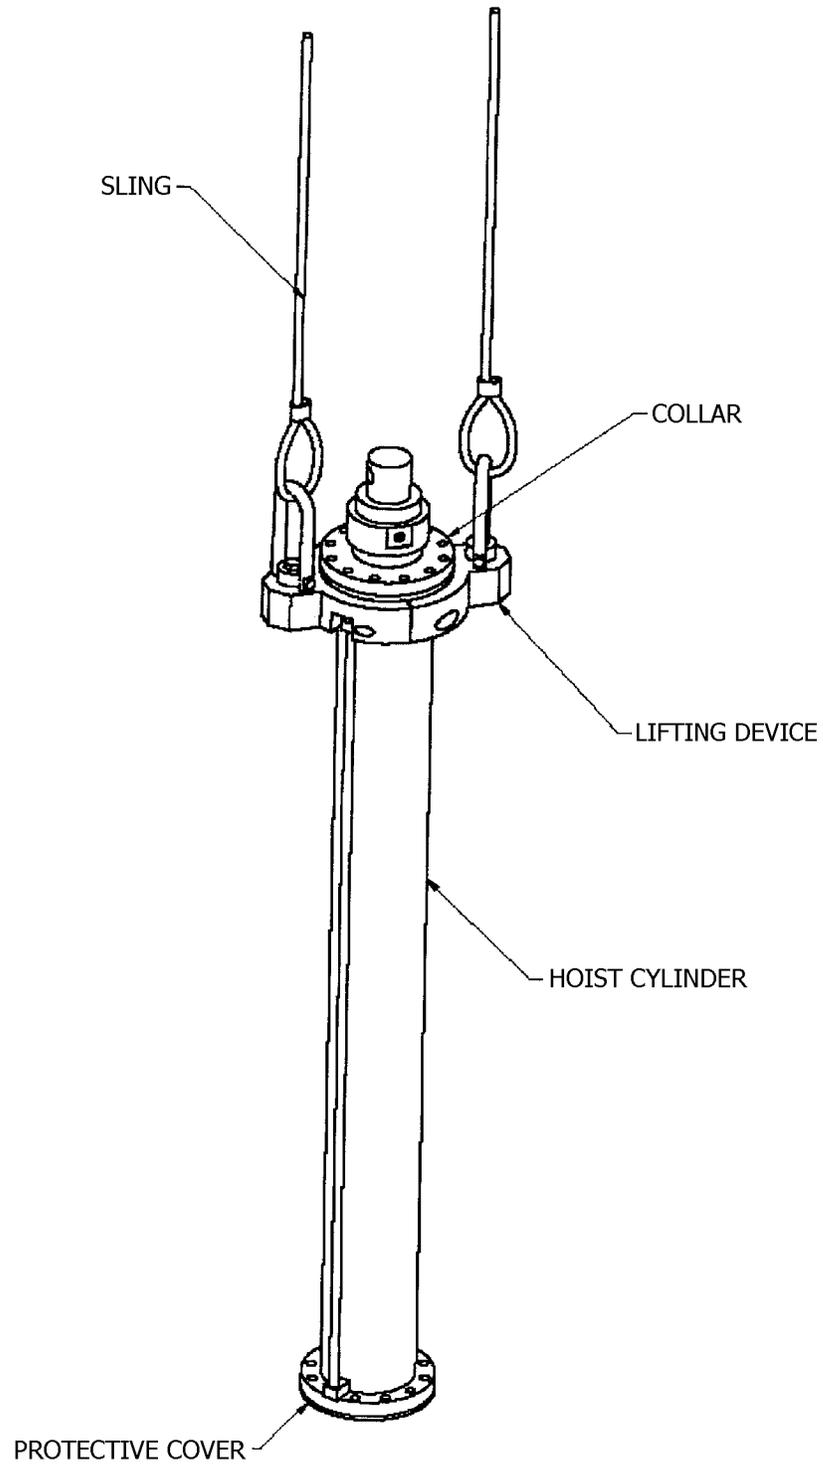

Figure 4-11 Installation of Hoist Cylinder Lifting Device (Assy 377)
- c. Attach the lifting device (Assy 377, Reference \(a\)) under the hoist cylinder upper flange. See Figure 4-11.
- e. Attach lifting slings to the swivels. Figure 4-11.